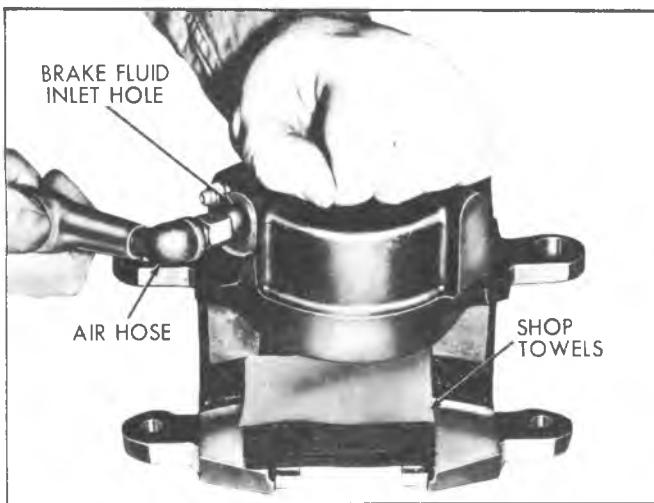

Fig. 61 -Removing Piston From Caliper
3. Using clean shop towels, pad the interior of the caliper and remove the piston by directing compressed air into the caliper inlet hole (fig. 61).